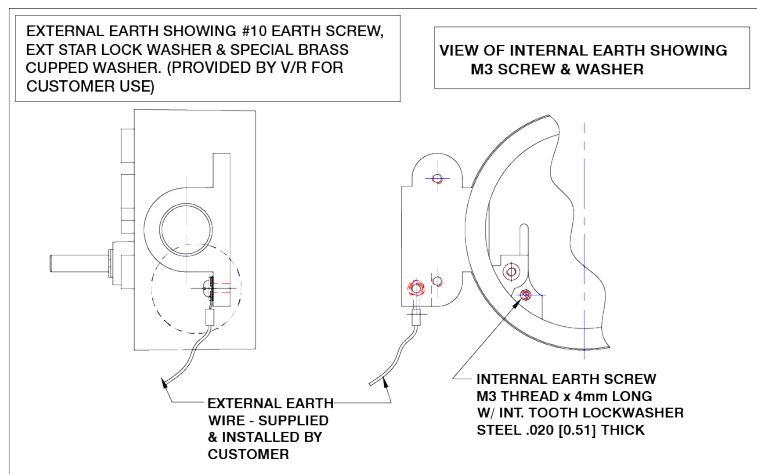

Figure 4. External & Internal Ground Connections
1. Customer applied ground wire is shown in Figure 4.
6. The internal earth point screw must not exceed 4mm in length. The protective Earthing (PE) conductor must be of equal or be larger in size than those external conductors used to wire the device.